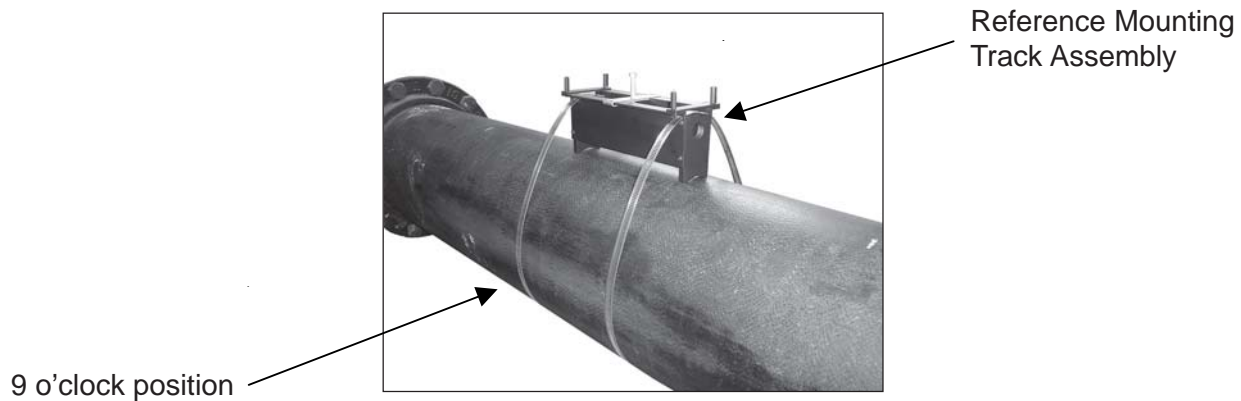

Figure 1
- Select transducer mounting location (3 and 9 o'clock position) and prepare surface of pipe (Figure 1). Smooth irregular surfaces and clean pipe of dirt, grease and rust (see paragraphs 3.3.2 and 3.3.4).